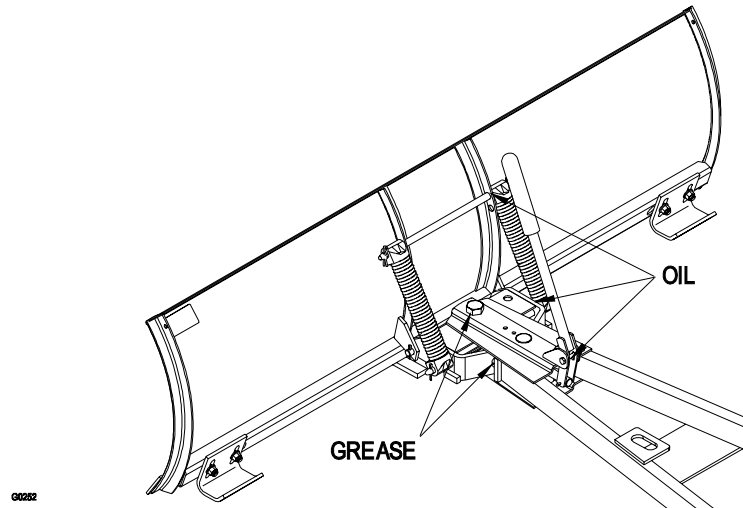

Figure 14
3. Clean the area around the channel pivot with a rag. Apply grease to the pivot bolt, frame, and channel indexing holes (Fig. 14).
2. Place a few drops of oil on all movable linkages (Fig. 14).